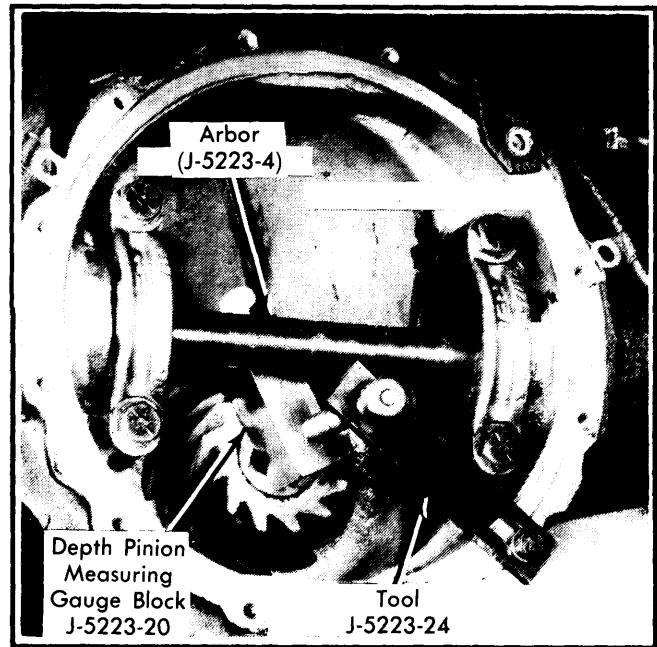

Fig. 3 Drive Pinion Depth Measurement
3) Assemble bolt J-5223-29 and clamp J-5223-24 and mount tools on axle housing. See Fig. 3. Extend clamp bolt until it presses against gauge block. Align gauge block plunger with center of gauge arbor and tighten clamp bolt until it presses against block with enough force to prevent block from moving.